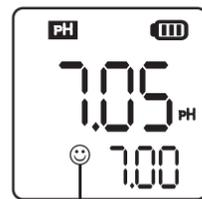

Figure 1
reading is reached. When stability icon ( $\odot$ ) appears and remains on the screen (see Fig 1); then short press CAL/ $\leftarrow$  key to complete the 1-point calibration. The tester returns to measurement mode and indication icon "M" will appear at the bottom left of the screen, indicating the middle point of calibration has been completed.
4. Dip the probe into 1413  $\mu$ S/cm calibration solution. Stir gently, leave it to stand. Wait for the measurement stability icon ( $\odot$ ) to appear and stay on the display (see Fig 1); then short press CAL/ $\leftarrow$  to complete the 1st calibration. Tester returns to measurement mode, and indication icon "M" appears on bottom left side of display.